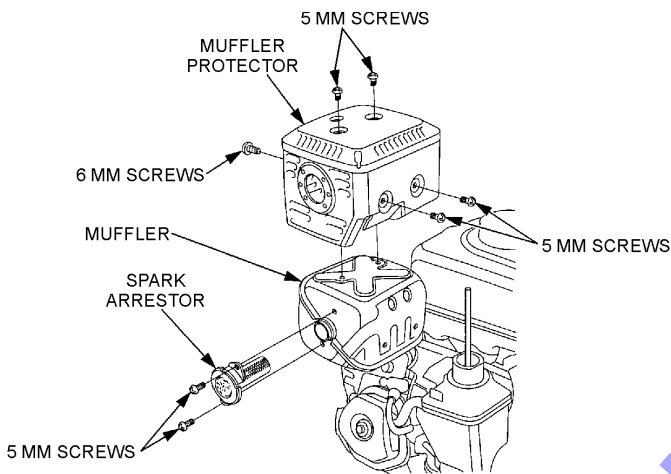

Figure 21. Spark Arrester Removal
1. Remove the 4 mm screw (3) from the exhaust deflector, then remove the deflector. See Figure 21.
2. Remove the 5 mm screw (4) from the muffler protector, then remove the muffler protector.